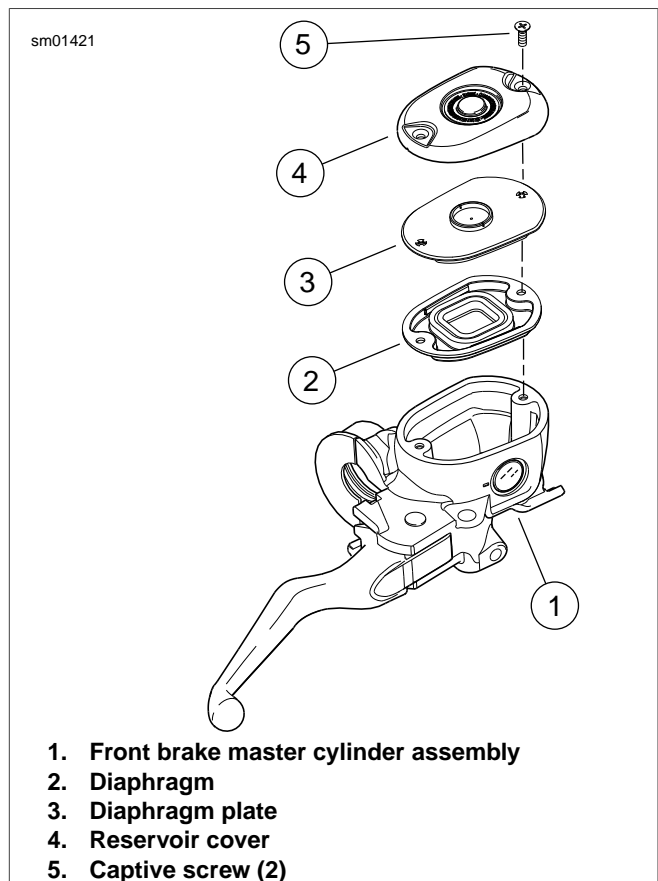

Figure 1-10. Front Brake Master Cylinder Cover Assembly
- See Figure 1-10. Remove reservoir cover (4) with two captive screws (5), diaphragm plate (3) and diaphragm (2) from master cylinder reservoir (1).
12. See Figure 1-10. Replace diaphragm (2), diaphragm plate (3) and reservoir cover (4) with captive screws (5). Tighten to 9-17 **in-lbs** (1.0-2.0 Nm).